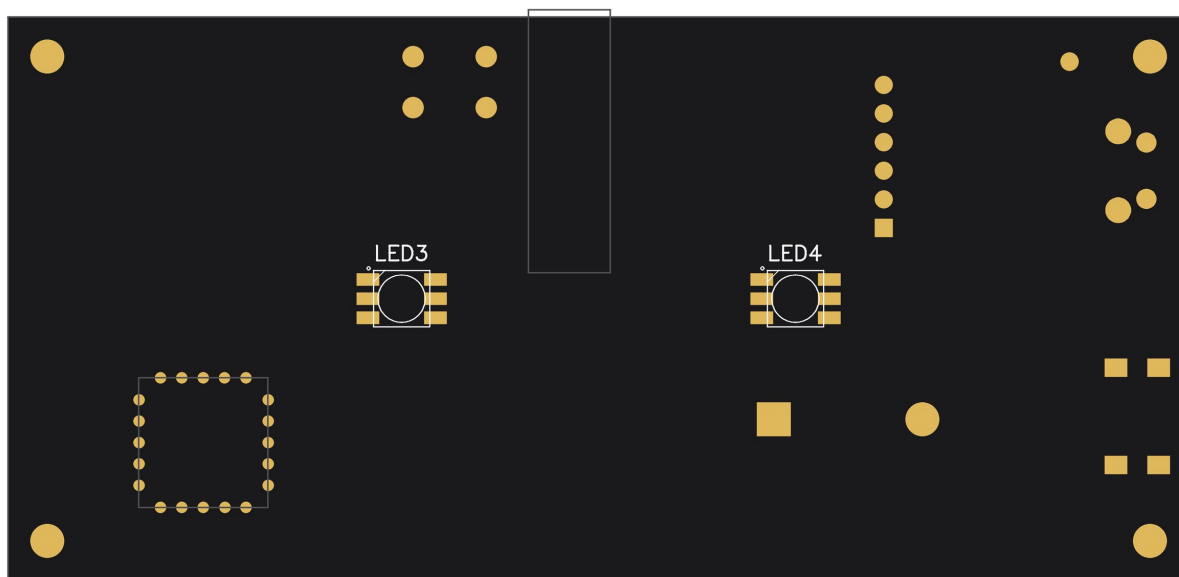

Figure 2 — Bottom-side component placement (mirrored, as seen looking at the underside).
2. LED3 and LED4 — the two APA102 under-lights on the bottom of the board (see Figure 2). Each has a pin-1 dot on its corner.